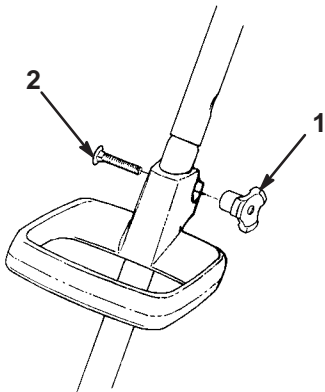

Figure 4
- Loosely install the adjustable handle to the tube with a carriage bolt and a knob (supplied in the loose parts bag) as shown in Figure 4.